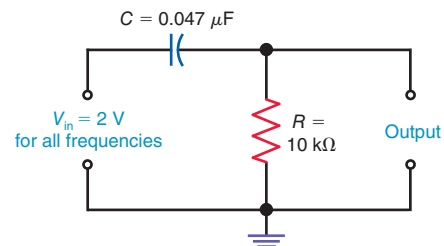

Figure 23-26
- Fig. 23-26.
- 23.12** In Fig. 23-26, calculate the output voltage, V_{out} , and phase angle, θ , at the following frequencies: